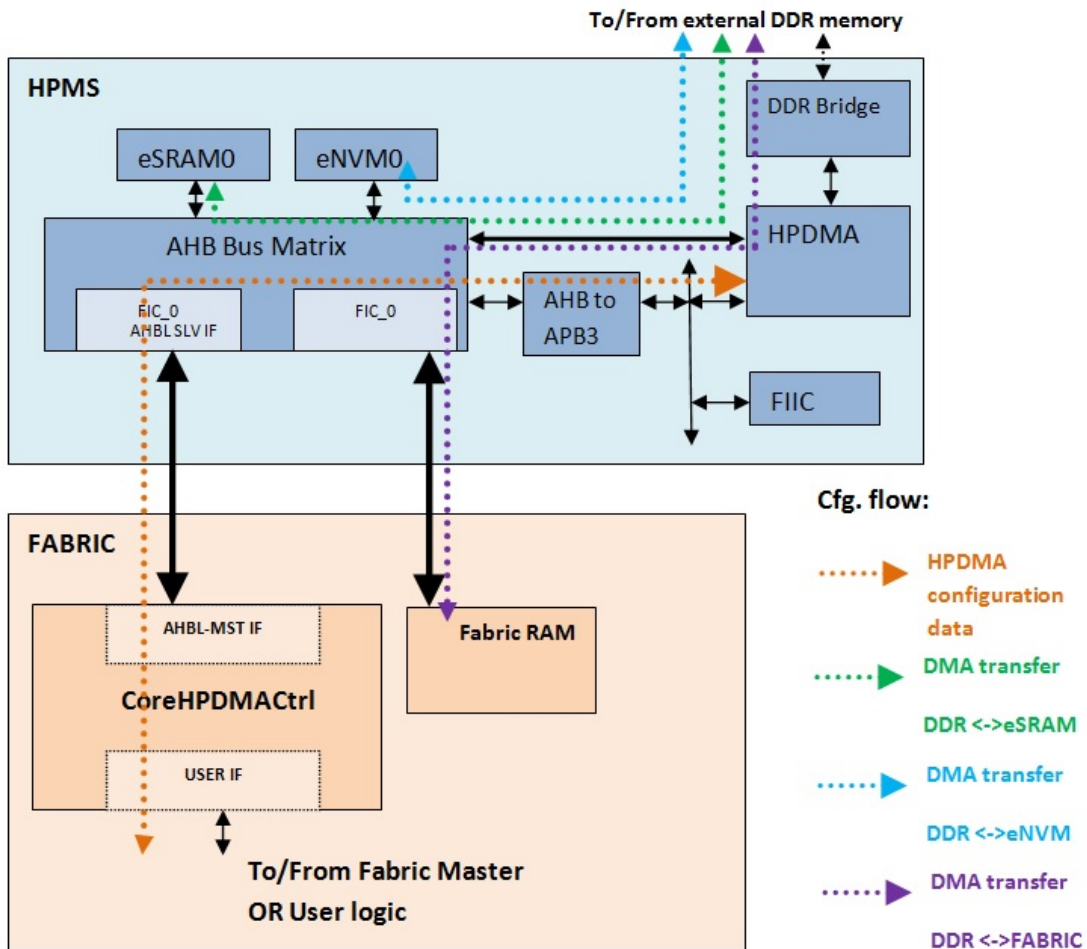

Figure 2 CoreHPDMACtrl Configuration and Data Flow Diagram
Figure 2 shows the configuration and data flow diagram for HPDMA. This CoreHPDMACtrl soft IP flow diagram shows the following transactions of CoreHPDMACtrl IP:
4. As per the configuration set in the HPDMA registers, the DMA transfers are initiated between the double data rate (DDR) memory and the AHB bus matrix mapped memory regions (eSRAM/eNVM/Fabric RAMs) as shown in Figure 2.
1. The next transfer must be initiated only when the previous transfer is completed (with corresponding descriptor bit set in HPD_DONE[3:0] or HPD_ERROR[3:0] for a clock pulse) and the HPD_START[3:0] output is low. Refer to Figure 2 on page 8.